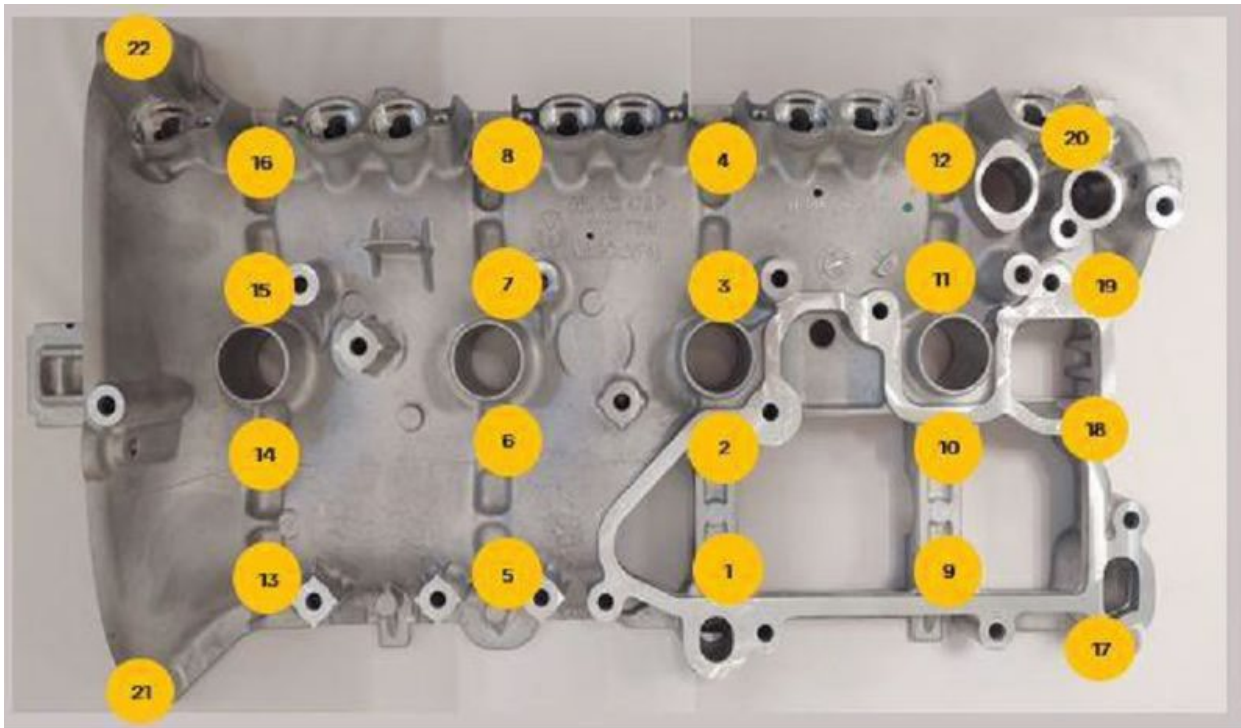

Figure 1: Sequence of checking bolts
- Check that the bolts are tightened to a torque of 14 Nm in the order shown in Figure 1.
- If several bolts are affected, do not loosen them at the same time (i.e. several at once). Please remove, replace, and tighten the bolts one by one in order shown in Figure 1.
- When replacing the new bolt, it must be tightened to a torque of 8 Nm + 90° . If several bolts are affected, do not loosen them at the same time (i.e. several at once). Please remove, replace, and tighten the bolts one by one in order shown in Figure 1.